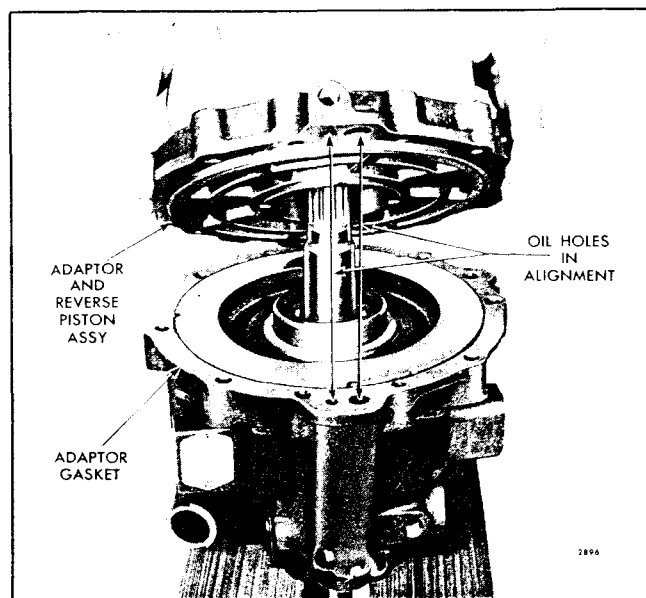

Fig. 80 - Installing Adaptor and Reverse Clutch Piston Assembly on Input Shaft and Gear Housing
- b. Affix a new gear housing adaptor gasket to the bolting flange of the gear housing with the bolt and oil holes in the gasket and the gear housing in alignment as shown in Fig. 80.
gear housing adaptor over the top of the drive gear input shaft, with the oil holes in the adaptor in alignment with the oil holes in the gear housing as shown in Fig. 80.